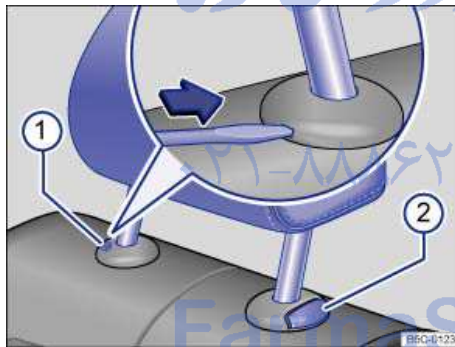

Fig. 40 Removing the rear head restraints.
- If necessary, press the flat blade of the screwdriver from the vehicle tool kit into the slit of the trim cap ⇒ fig. 40 \(1\) in the direction of the arrow and hold it in this position.